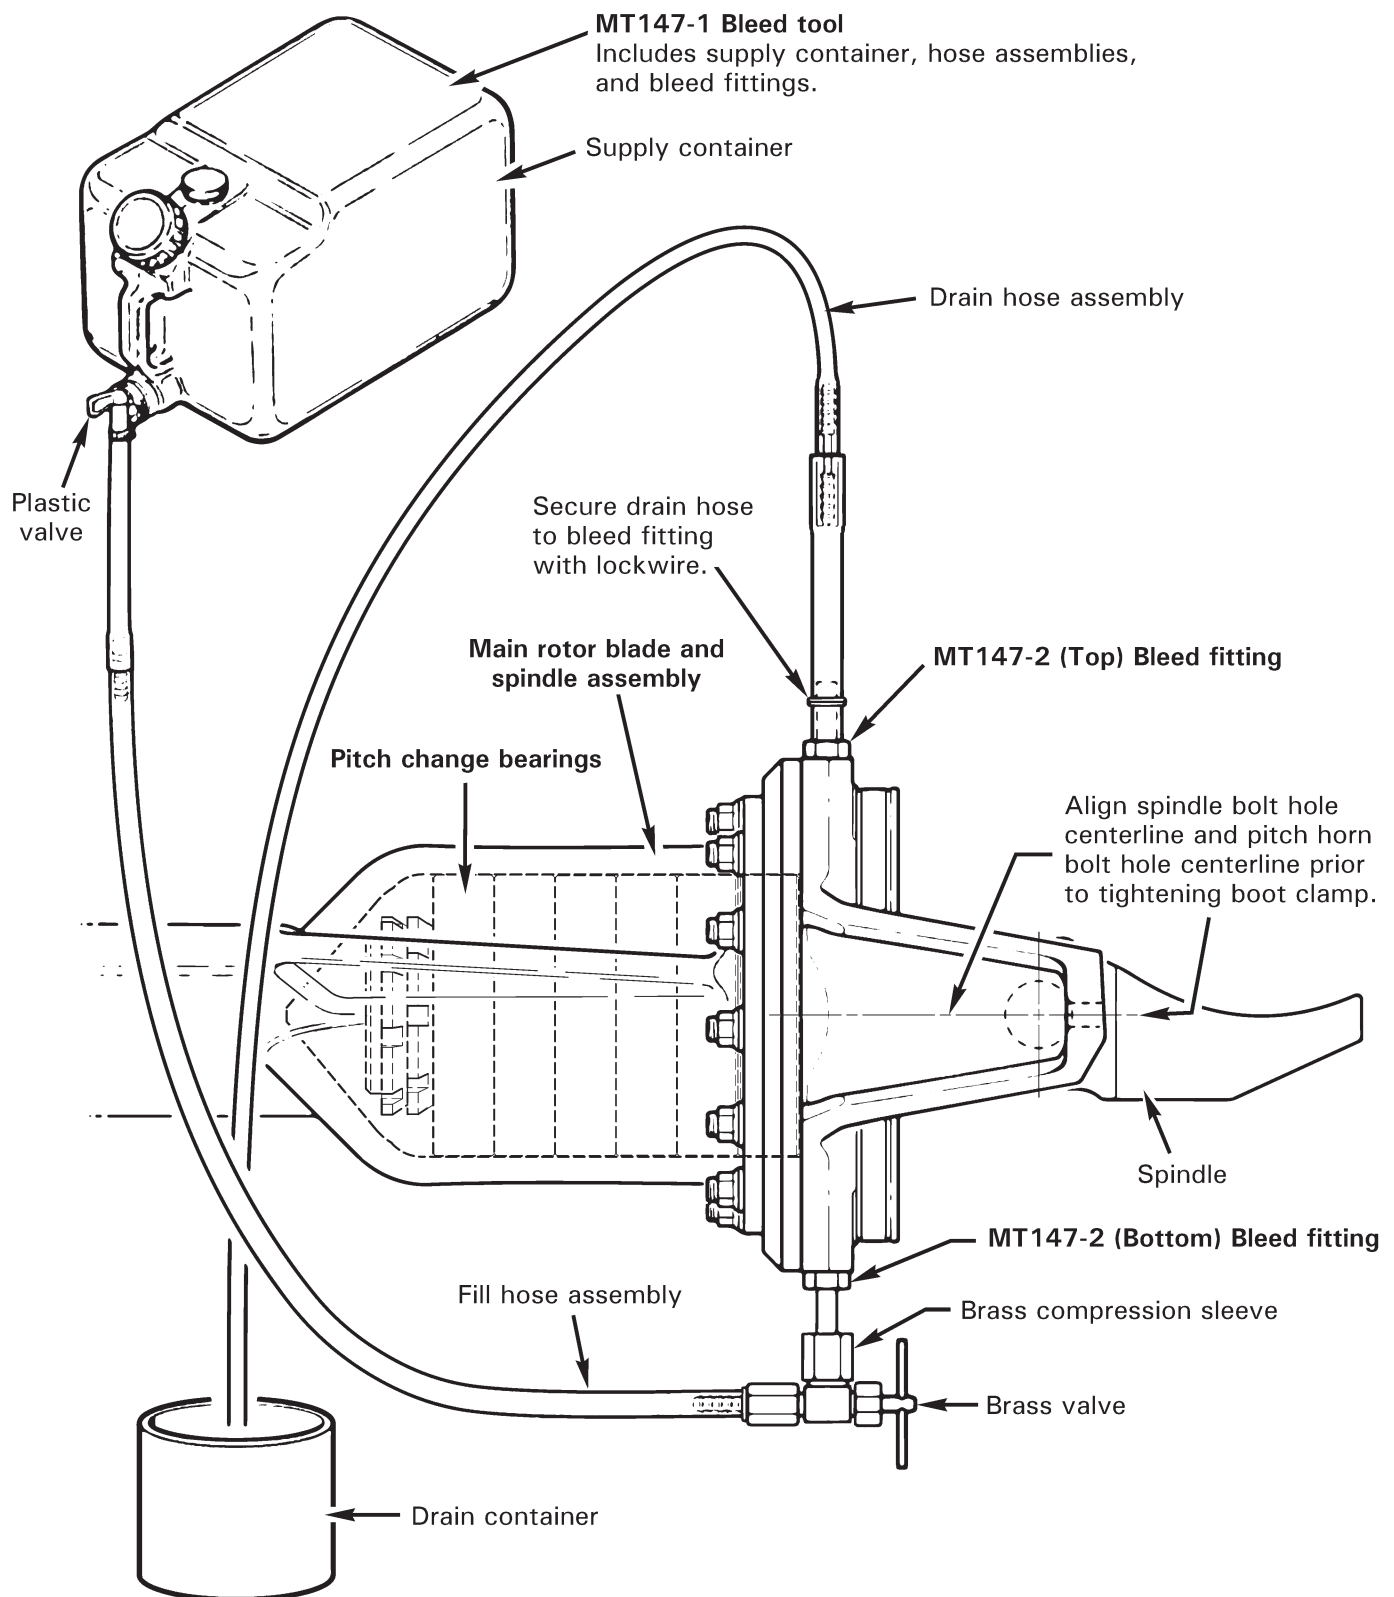

FIGURE 28-4 FILLING PITCH BEARING HOUSING
3. Stretch boot outer lip over pitch horn flange. Rotate spindle and align pitch horn bolt hole with spindle bolt hole per Figure 28-4. Install C165-2 (outer) clamp assembly and tighten clamp. Verify security.
2. Refer to Figure 28-4. Place a suitable drain container below main rotor pitch horn. Remove two B289-2 bolts from pitch horn and drain fluid.